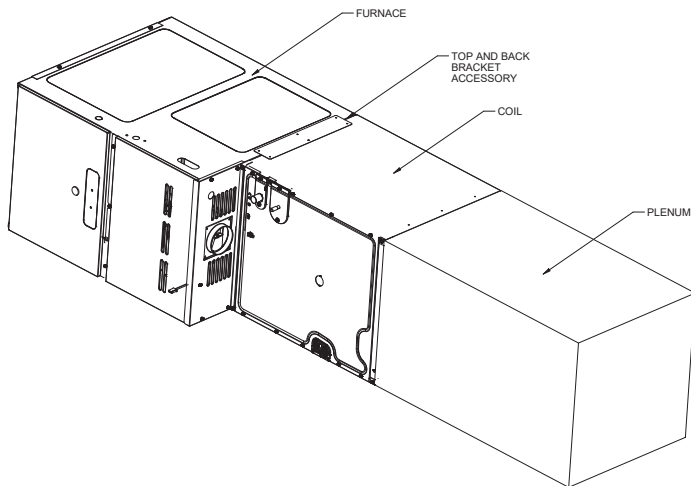

Figure 4E
3. Optionally a transition duct can be used to attach the coil with furnace, if z-bracket is not preferred to be used (see figure 4E and 4F).